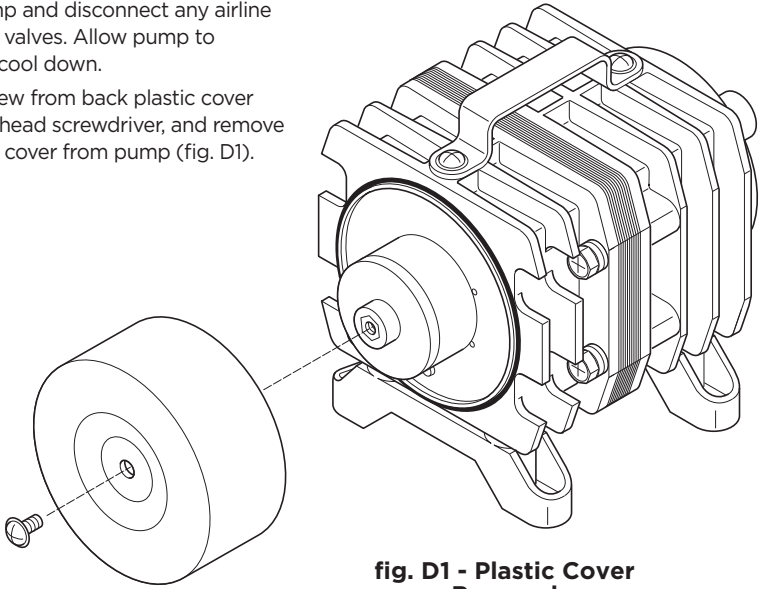

fig. D1 - Plastic Cover Removal
Clean the Air Filter Every Three Months (Figure D1 and D2)
2. Remove screw from back plastic cover with a crosshead screwdriver, and remove back plastic cover from pump (fig. D1).